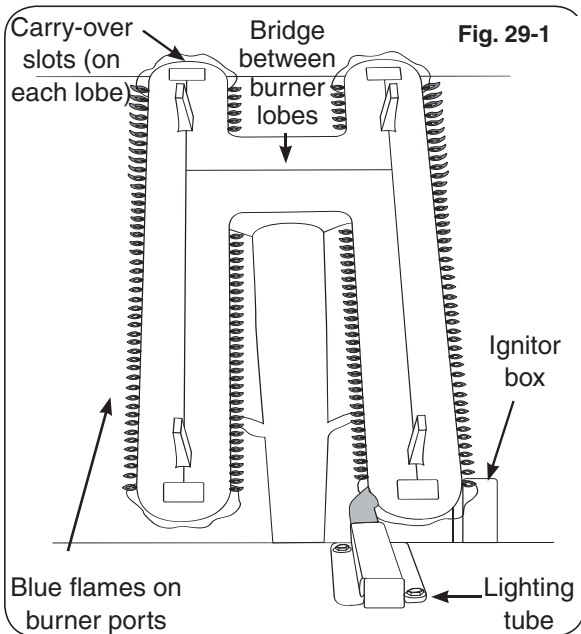

Fig. 29-1
Flames from a properly adjusted main burner with no wind or breeze present will appear fairly steady, consistent, and mostly blue. If the tip of a flame were to turn orange, it should only do so briefly and then become blue again. The flames will appear to burn while touching the burner ports (see Figure 29-1).
5. Repeat steps 1-4 until the flames appear to touch the burner ports, burning fairly steadily and mostly blue (see Fig. 29-1).